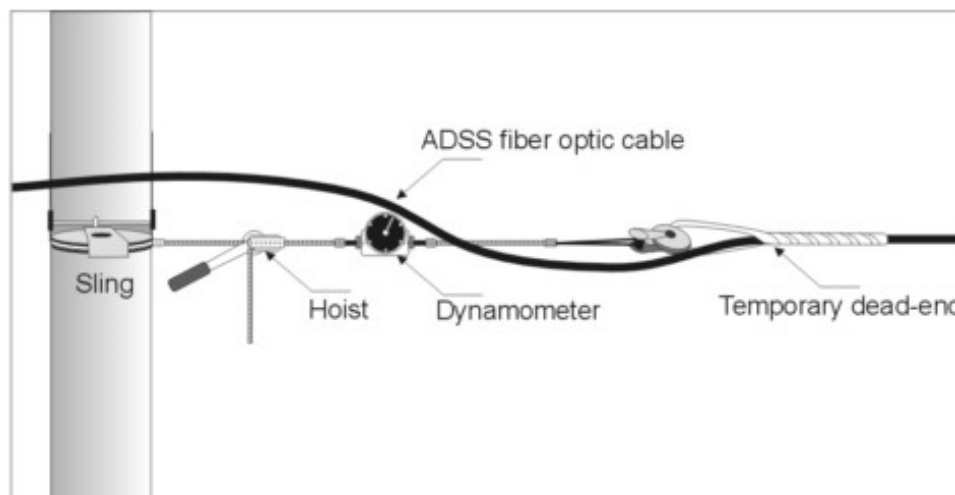

Figure 7. Tensioning equipment
With a dead-end fitting already in place on one end of the span, the cable is tensioned by pulling on its opposite "free" end with a chain hoist, using the setup shown in Figure 7.
- Set up the temporary dead-end, a chain hoist, an in-line dynamometer, and other hardware as shown in Figure 7. Typically, the chain hoist is strapped to the dead-end pole. Specific operation of the chain hoist should follow manufacturer's recommendations.
- The tension can be initially monitored at the dead-end pole with the dynamometer shown in Figure 7. When tensioning several straight spans (with few offsets), it may be necessary to use false dead-ends even though the pole offset is less than 20° (Figure 13). This may be necessary to ensure that a 1% installation sag is maintained for all spans.